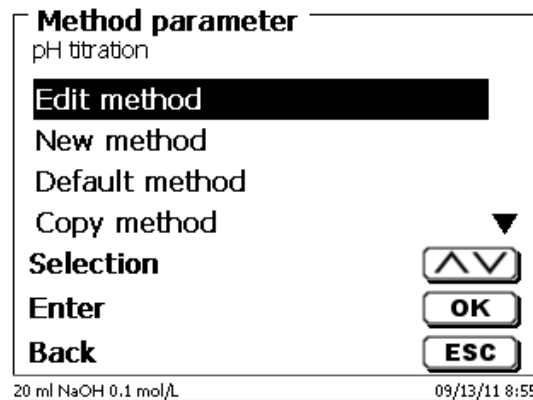

Fig. 42
**<EDIT>/F3** will take you to the method parameters (Fig. 42).